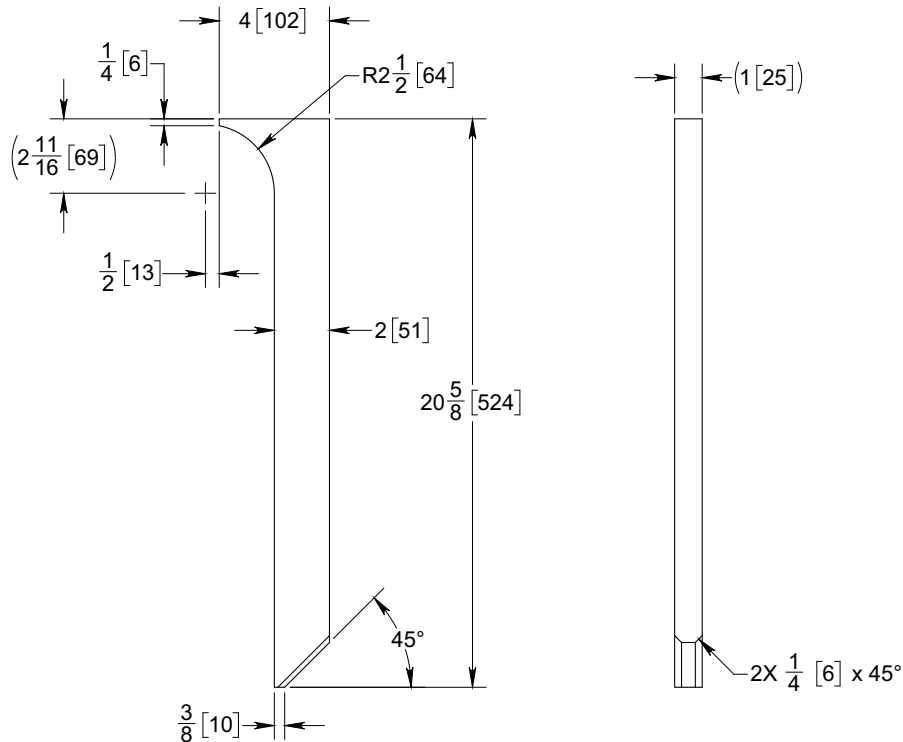

Figure 5: Plate P/N: DT27200-2
- Using ASTM A36 material, fabricate one (1) plate (item 3 on Table 1 on page 3) as indicated in Figure 5.